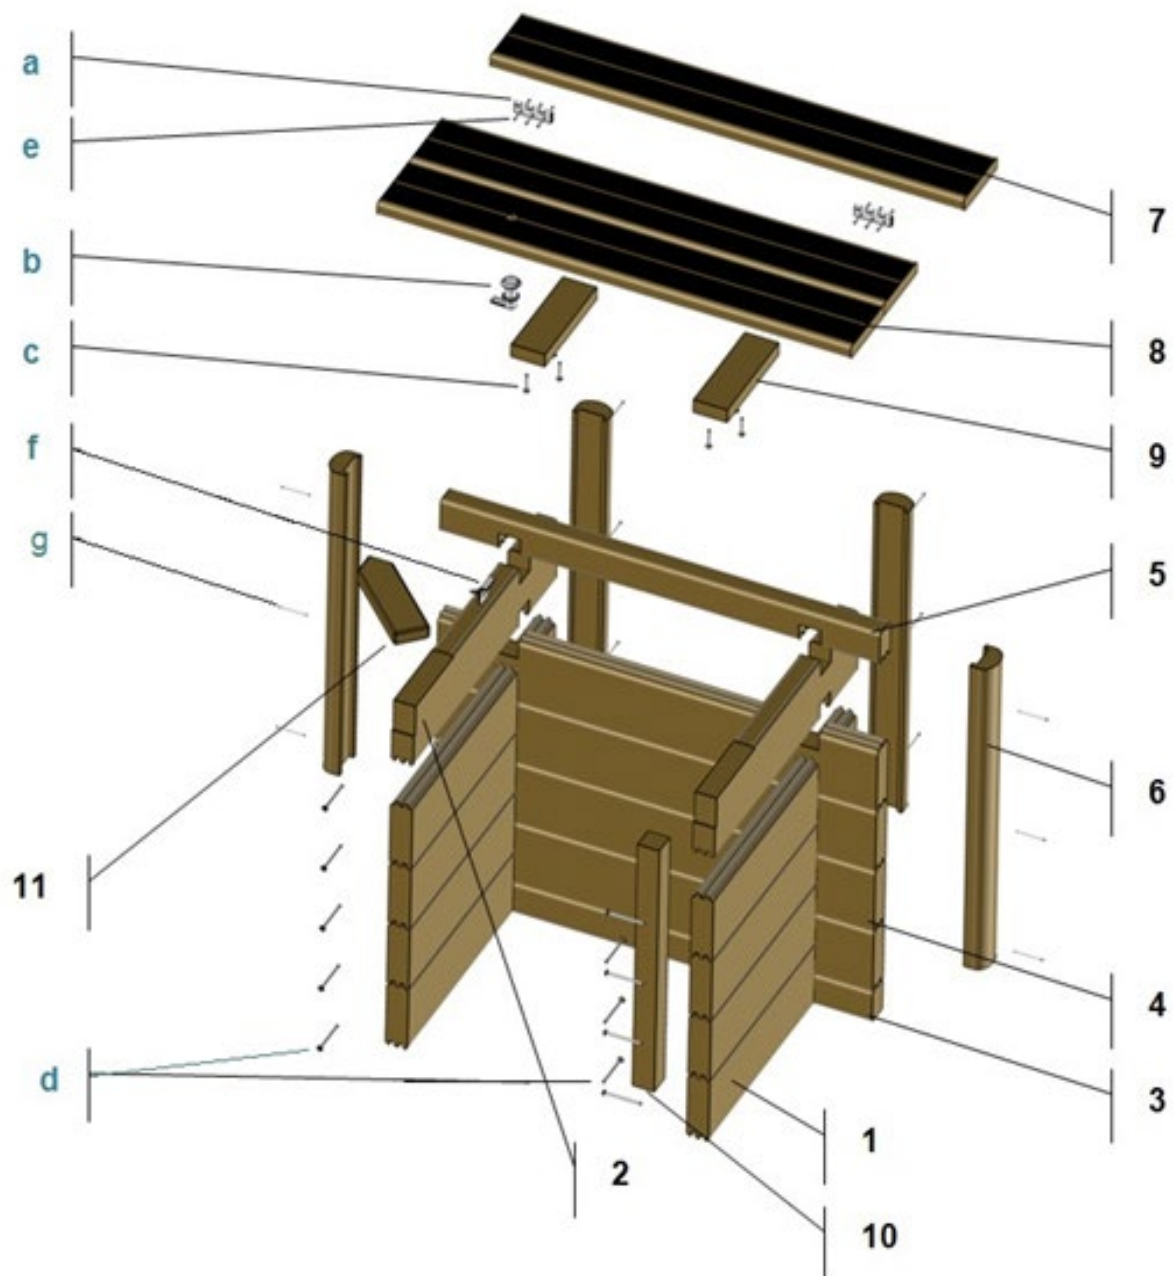
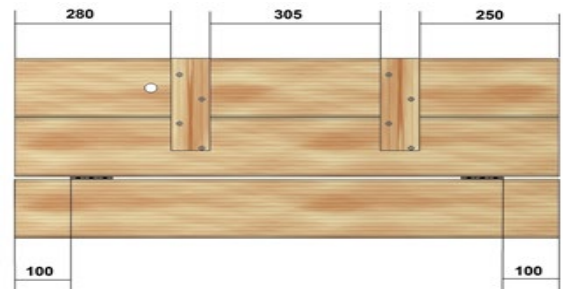

Figure 58 – Cover pit exploded view
Figure 65 – Assembly of the duckboarding
To finish, fasten the 45 × 45 mm cleat (part no.10 in *Figure 58*) in position using 4 countersunk torx screws 5 × 80 threaded over 50 mm (d). This cleat should be flush with the end of the cover pit slats.
The corner part delivered with the wooden pack of your Urban pool is rectangular. After installing the coping on your cover pit, a triangular space will be left empty. To avoid this situation, swap this part for the part with the pointed end enclosed with the cover pit (part no. 11 in Figure 58).
- Fasten the cleat (part no.10 in Figure 58) to the pool wooden slats using three countersunk Torx screws 5 x 80 threaded over 50 mm (d);
Using 3 countersunk screws 4 × 35 per hinge, mount the two hinges on the edge of a duckboarding coping module 97.5 cm long (part no.7 in *Figure 58*) at the positions indicated in *Figure 65*.
Join the two remaining 97.5 cm coping modules (one of which has been drilled to hold the lock) together with cleats attached from below. Use two countersunk 5 × 40 torx screws, threaded over 25 mm per cleat and per slat, that is a total of 8 screws (c), paying attention to the location of the lock housing and the dimensions shown in *Figure 65*, and leaving a gap of 2 mm between the two copings.
The hatch locking mechanism is comprised of a lock barrel, a lock cam to fitted to the end of the lock barrel, and a strike plate to be fitted to the cover pit slat machined to hold the lock (part no. 2 in *Figure 58*).